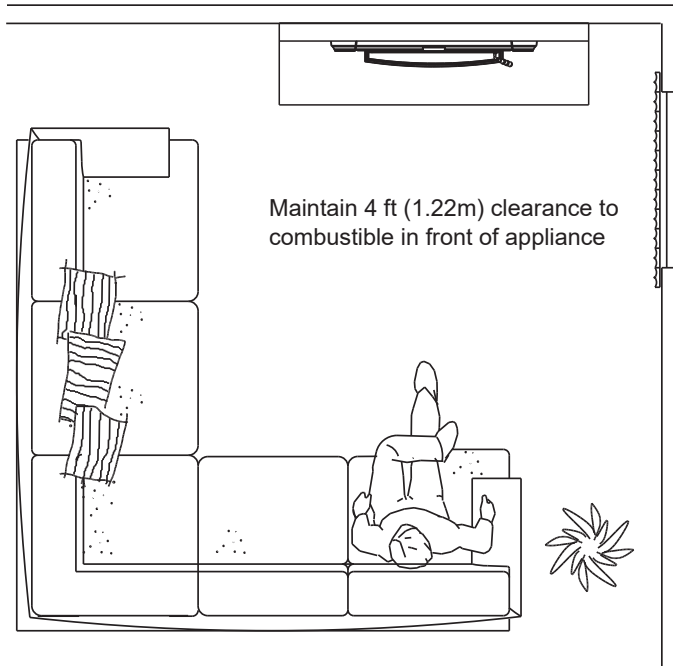

Figure 18.1
- Do NOT place combustible objects within 4 ft (1.2 m) of the front of appliance (**Figure 18.1**).